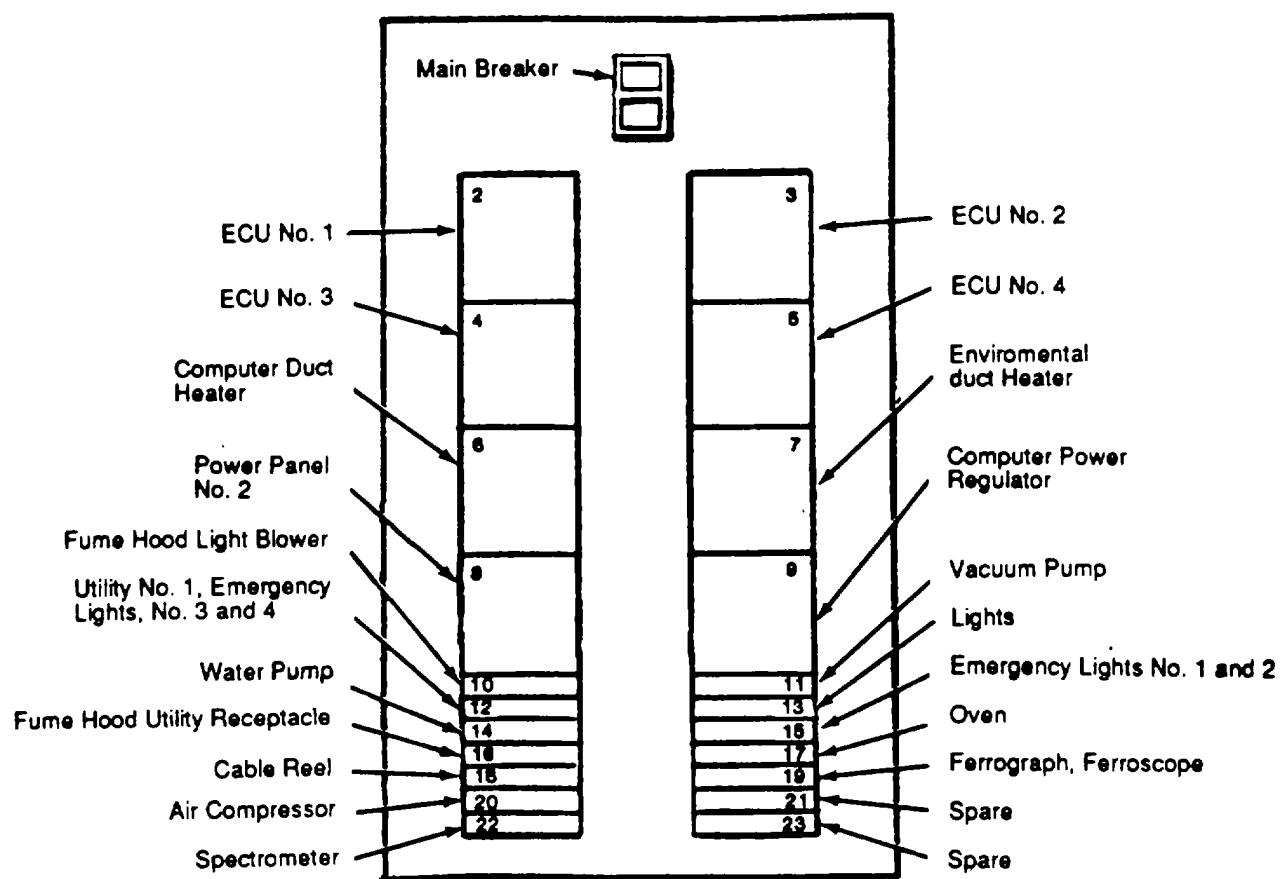
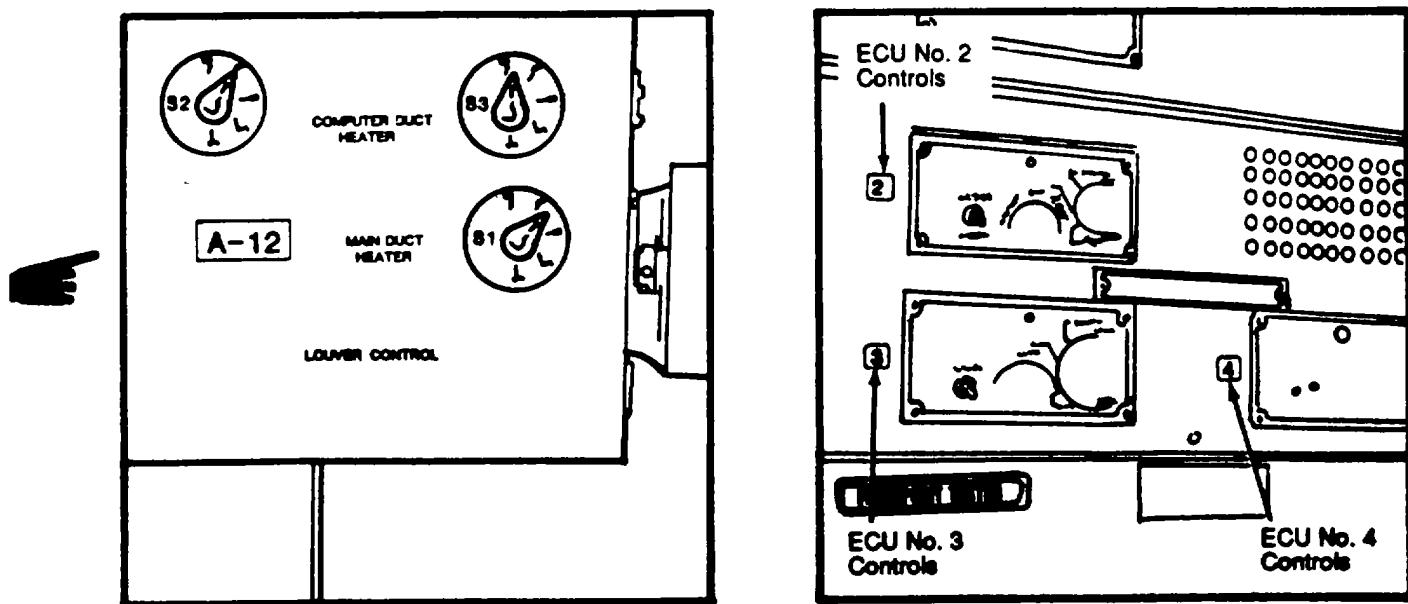
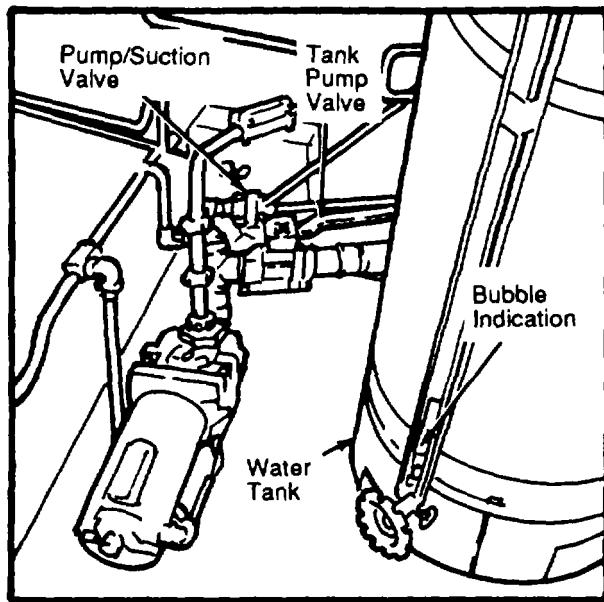

Figure 2-5. Main Power Panel
Figure 2-6. Switches S1, S2, S3 and ECU No. 2, 3, 4 Controls
Figure 2-13. Water Tank and Pump
- (3) Switch generator to load conditions and actuate the purge timer located in the power entrance box on the AOAP Mobile Laboratory. The phase indicator green light in the power entrance box should now be on. However, if the red light is on, then set generator to a no-load condition and recheck power cable connections and retry for green phase indicator.
- (4) Enter the main laboratory compartment by using the curbside forward door. Unlock the forward door and enter the mechanical room and reset main circuit breaker (Figure 2-5) by turning it to the "on" position.
- (5) Turn S2 Switch (Figure 2-6) to the "ON" position prior to turning the computer duct heater breaker on.
- (6) Turn S1 Switch to 100 percent, S3 Switch to the "ON" position and ECU NO.2, 3, and 4 controls to the "HIGH" speed setting.
- (7) Switch on the circuit breakers in the Main Power Panel (Figure 2-5) as required.
- (9) Switch on circuit breaker in Power Panel number 2 as required.
- (10) Remove any auxiliary overpack containers from the rear, main and utilities walkways.
- (11) Remove any preservation masks, covers, and panels from the laboratory equipment.
- (12) Remove any preservative/packing material from the compressor, vacuum pump, water pump, and any other support/services device located in the mechanical room.
- (13) As climatic conditions apply, activate the appropriate ECU No. 2, 3, and 4 controls (heating and/or cooling) (Figure 2-6).
- (1) Close all compressed air system service valves (Refer to Table 2-8).
- (2) Turn on the air compressor circuit breaker No.20 in Main Power Panel (Refer to Figure 2-5).
- (1) Close all vacuum system service valves (Refer to Table 2-9).
- (2) Turn on the vacuum pump circuit breaker switch No. 11 in the Main Power Panel (Refer to Figure 2-5).
- (3) Vacuum system is now operational.
(5) Fill the water tank (60 Gallon Capacity) (Figure 2-13) until the bubble indicator reaches the top, which indicates that the tank is full.
- (3) Close the tank/pump valve (Figure 2-13).
- (4) Open the Pump/Suction Valve.
- (5) Turn on the water pump switch located in the main power panel (Figure 2-5) and proceed to fill the tank.
- (6) Close pump/suction valve (Figure 2-13).
- (3) Set the "TANK/SYSTEM" Switch and the "WATER FLOW FACILITY SUPPLY" Switch to "SYSTEM".
- (4) Set the "FILTER VALVE" Switch to "OFF".
- (5) Close the pump suction valve (Figure 2-13).
- (6) Open the Tank/Pump valve.
- (7) Turn on the water pump switch located in the main power panel (Figure 2-5) to pressurize the system.